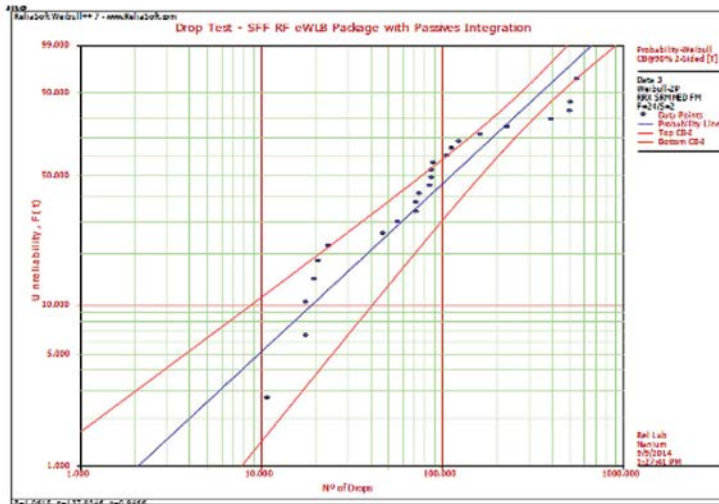

Figure 6 - First DT results of a WLSiP for wearables.
Drop Test (DT) of this complex WLFO-based WLSiP following JESD22-B111 specification showed first fail at 30 drops. The Weibull distribution is shown in Fig. 6. The fails occurred mainly at outer BGA ball rows. Improvement has been achieved through the introduction of a DT optimized solder ball alloy.